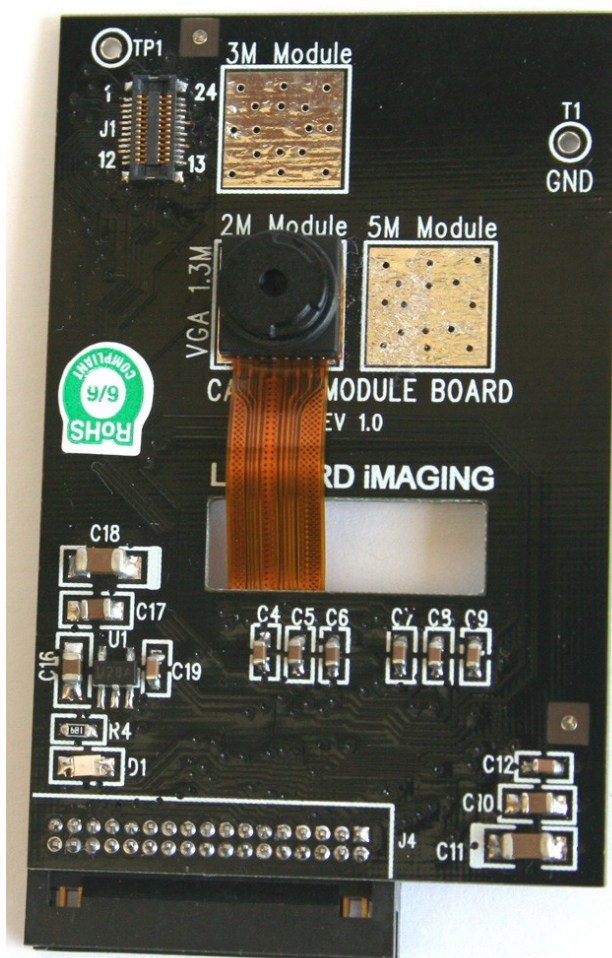

Figure 9. 2M Camera Board
1.2.5.3 2 Mega-pixel Camera Board, see Figure 9